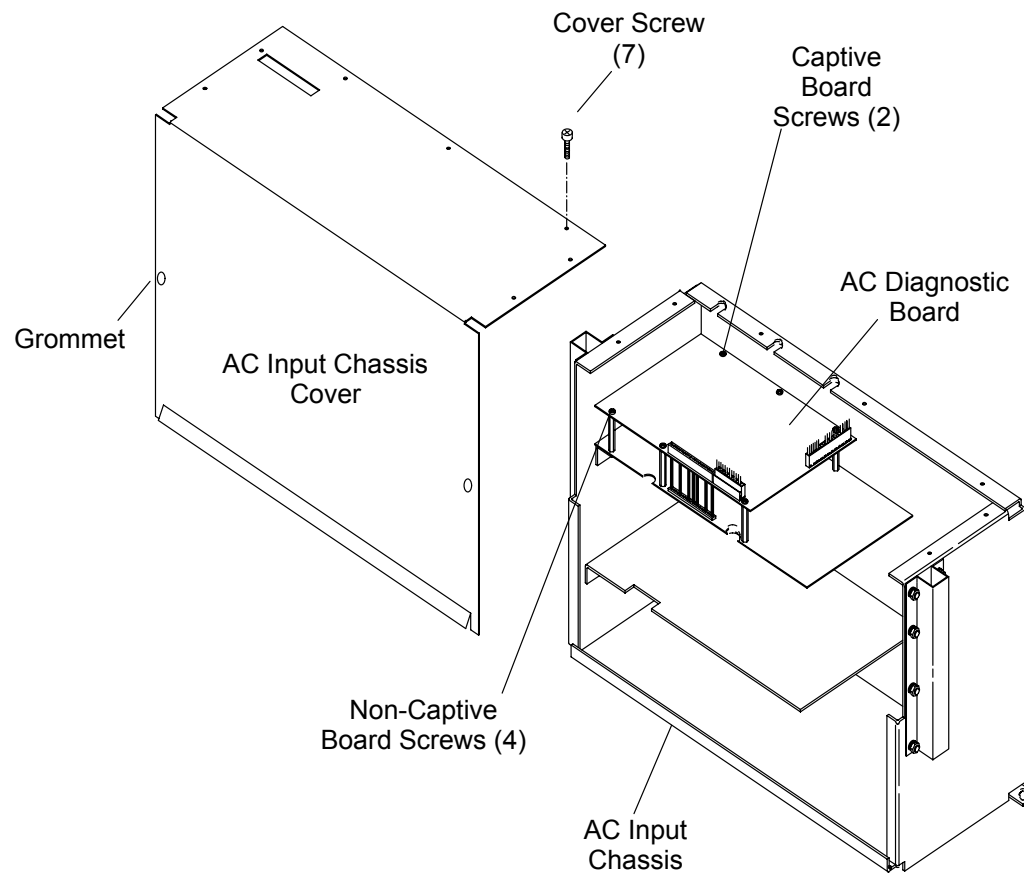

FIGURE 281 AC Input Chassis Cover and Diagnostic Board
4. Remove the seven Cover Screws on the AC Input Chassis. See Figure 281.
9. Remove the six PCB Retaining Screws that secure the AC Diagnostic Board and remove the Board by carefully disengaging the rear-entry Card Connector Pins (JB5) and then working the PCB out of the Chassis. Note: it might be necessary to slightly bend the PCB to effect removal. Refer to Figure 281.